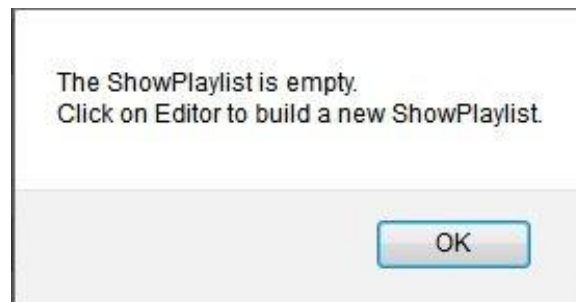

Figure 268: Empty Playlist
- If no Playlist is selected, a message will appear stating, "The show playlist is empty" (Figure 268).